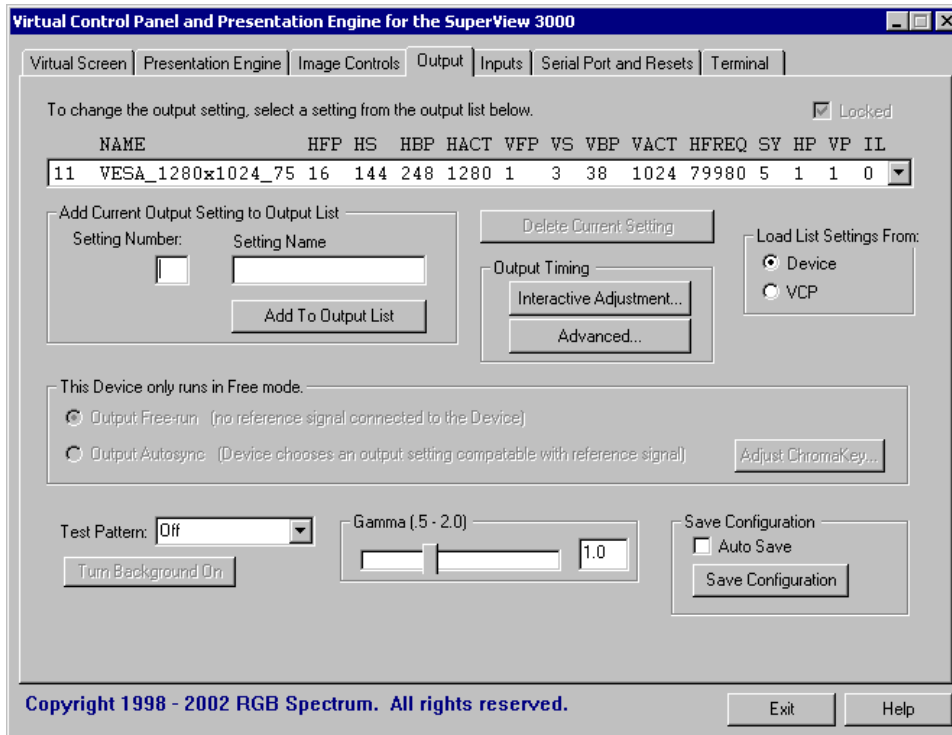

Figure 10. SV3000 VCP Output Menu
Select the *Output* tab to view the current output mode of your unit. (see **Figure 10**)
1. To create a user output setting with the aid of the SV 3000's output interactive mode, click on the *Interactive Adjustment* button in the *Output Timing* section (**Figure 10**).
In addition to these image adjustments, the SV 3000 provides the ability to set the output gamma. This is useful to adjust the image to suit different types of displays. This adjustment applies to the output and so applies to all signals. To set output Gamma select the VCP **OUTPUT** Menu (see **Figure 10**).